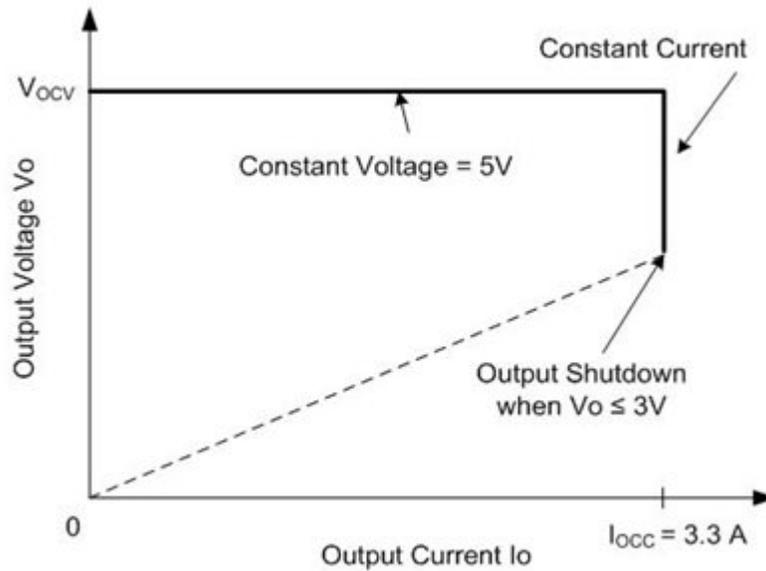

**Figure 1. Flyback Converter with the SR Controller Biased from the Output Voltage**
With the increased interest in energy efficiency and energy conservation, a synchronous rectifier (SR) helps boost efficiency when converting offline AC power into 5V for USB smartphone battery charging. During this conversion, an SR controller integrated circuit (IC) needs proper biasing in order to provide the adequate drive to the SR MOSFET. The bias voltage is typically above 4V in USB applications. Because the BC1.2 USB battery-charging standard specifies a power adapter output in the range of 4.1V to 6V, you can bias SR controller ICs from that output, as shown in Figure 1.